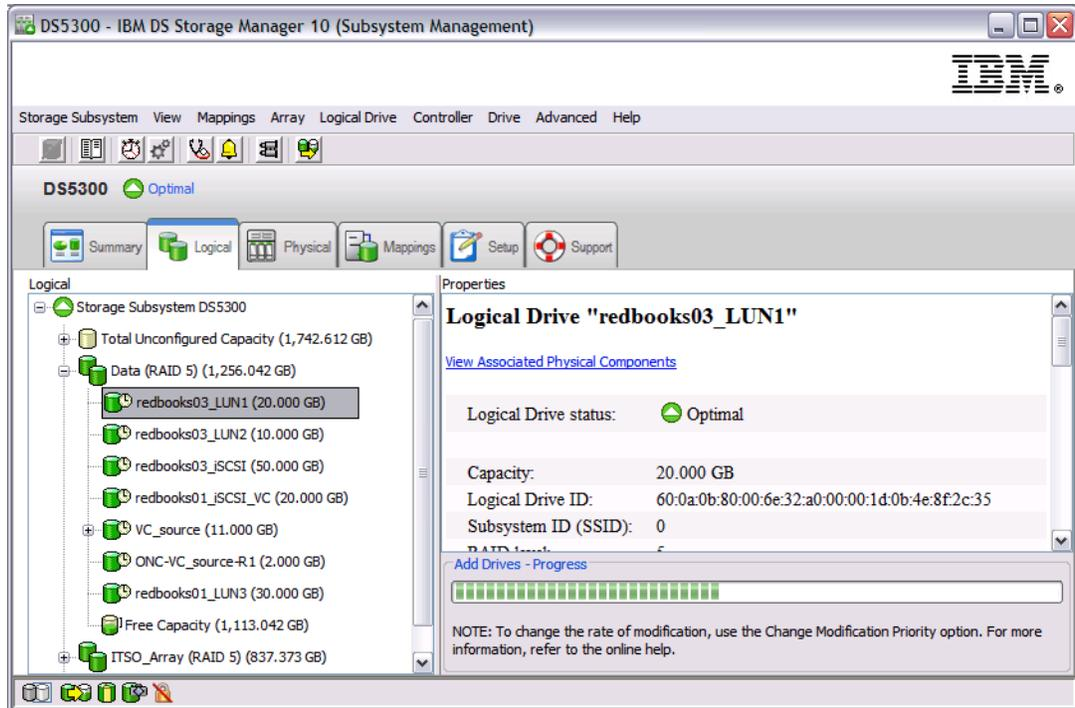

Figure 3-19 Add capacity progress bar
3. Select the drive that you want to add and click the **Add** button, then click **OK** on the confirmation dialog to add drives to your array. A clock on the array's volumes means that the reconfiguration process is ongoing. You can see the operation progress bar just by clicking the volume, as shown in Figure 3-19.